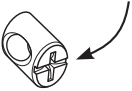

Figure 2
- Step 3** Flip base over and place cross dowel nuts in the holes in the underside of the carrier rail under the slats (Fig.2), and align the nut so that the bolt holes line up (use a Philips screwdriver if necessary). Now you're ready to attach bed ends.